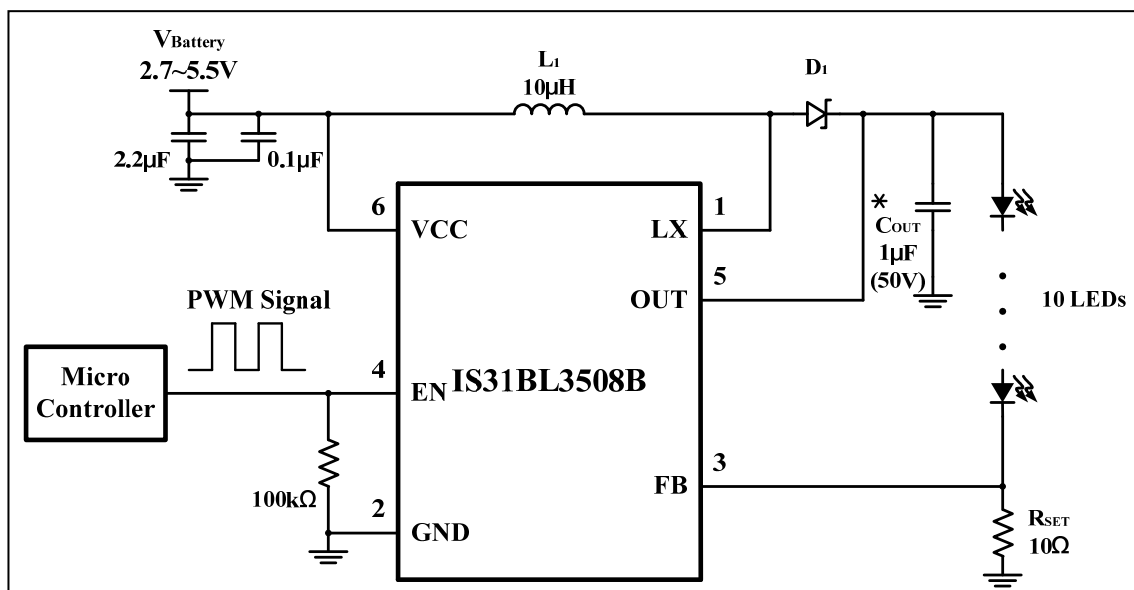

Figure 1 Constant Current White LED Driver Using PWM At The EN Pin To Control Intensity
The choice of the inductor value will affect the performance of the device. Large value inductors will reduce the current ripple in the inductor, thus reducing output voltage ripple. However large value inductors of the same current rating, typically also have larger DC resistance, thus reducing the system efficiency. For example in Figure 1, the loads are 10 WLEDs and output current is 20mA. The maximum input current can reach 300mA. For this application a 4.7μH or 10μH 400mA inductor is sufficient.
When the IS31BL3508B is used for LED driving applications (Figure 1), the LED current flows through the external feedback resistor R_{SET} to regulate the LED current. The internal feedback regulation point is 0.2V. The maximum LED current may be calculated by the following Equation (1).
The EN pin of the IS31BL3508B can accept a PWM signal to implement LED dimming (Figure 1). LED current may be computed using the following Equation (2).